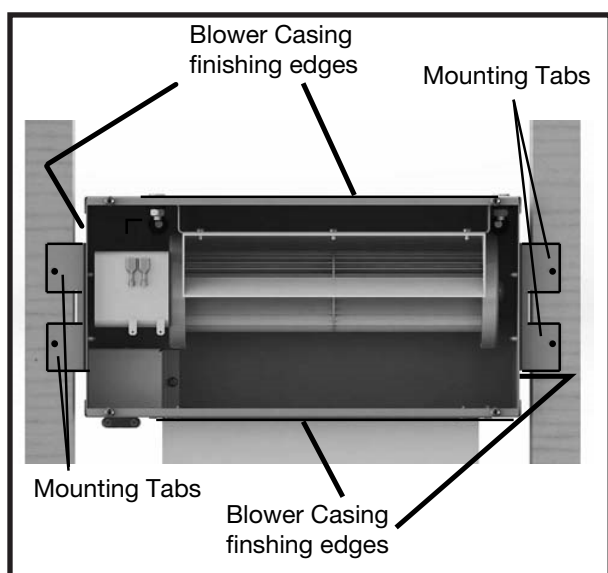

Figure 27: Blower details.
5. Locate the Remote Blower Assembly in the desired wall location, following the specifications listed below and secure to the framing using the mounting tabs on the casing. "Figure 27: Blower details."
6. Attach the 10"(254) X 3 1/4"(83mm) Transition Boot to the Remote Blower Assembly and seal with aluminium duct tape. Run 6" diameter approved Type "B" flexible or ridged gas vent pipe (vent pipe is not included with this kit) between the blower and the fireplace. Fasten in place with screws and seal with aluminium foil tape.
9. Drywall and facing material must not cover the opening in the blower assembly. Remove the Face Plate. Cut the drywall so the edges butt up against the outside of the blower casing edges (Figure 27), top, bottom and sides.